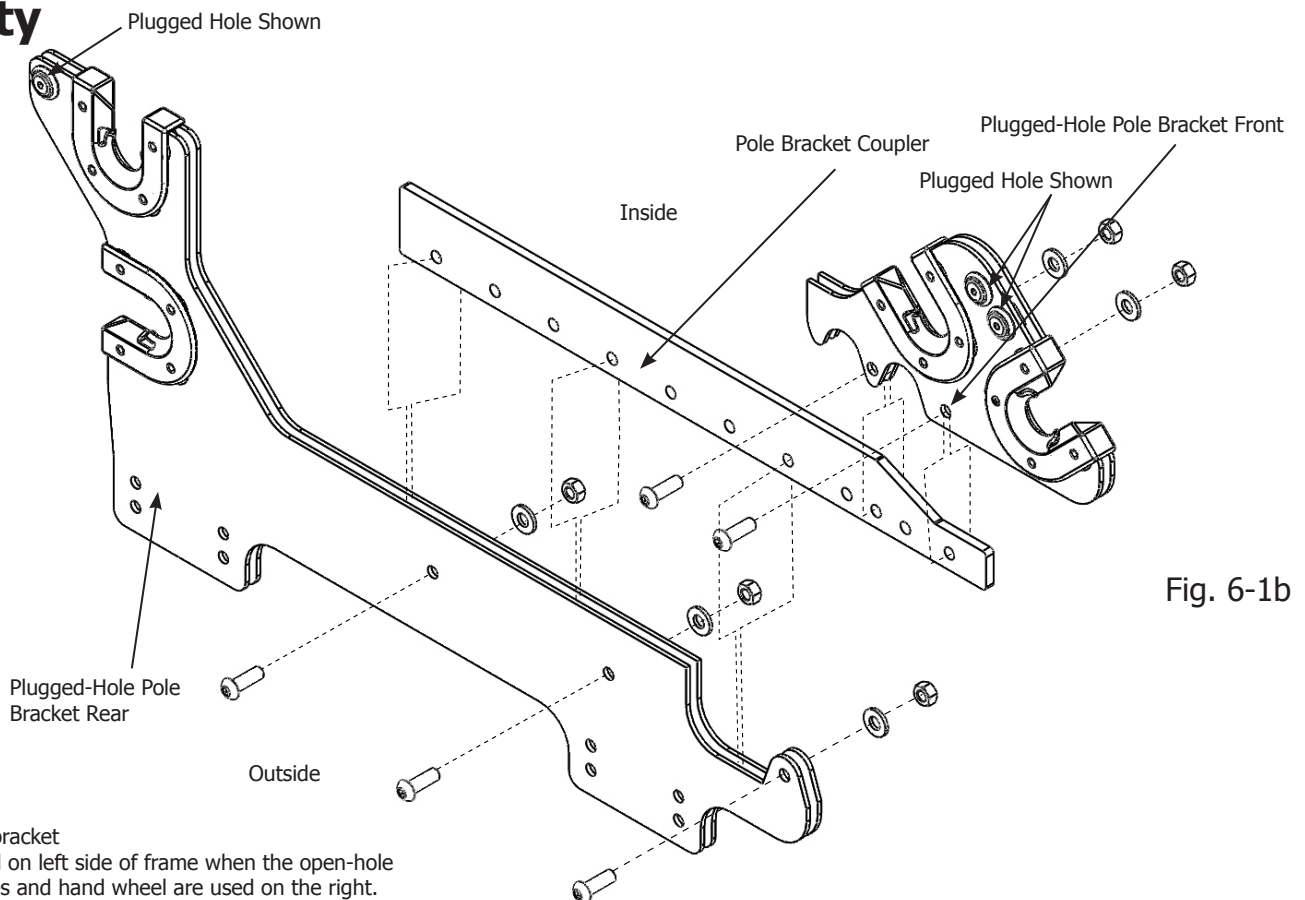

Fig. 6-1b
6-3: Assemble the plugged-hole pole bracket front, the pole bracket coupler, and the plugged-hole pole bracket rear using five (5) M8 x 25mm SBHCS with five (5) M8 washers and five (5) M8 lock nuts (as shown in Fig. 6-1a and Fig. 6-1b).
Fig. 6-1b shows assembly for the HQ Infinity.